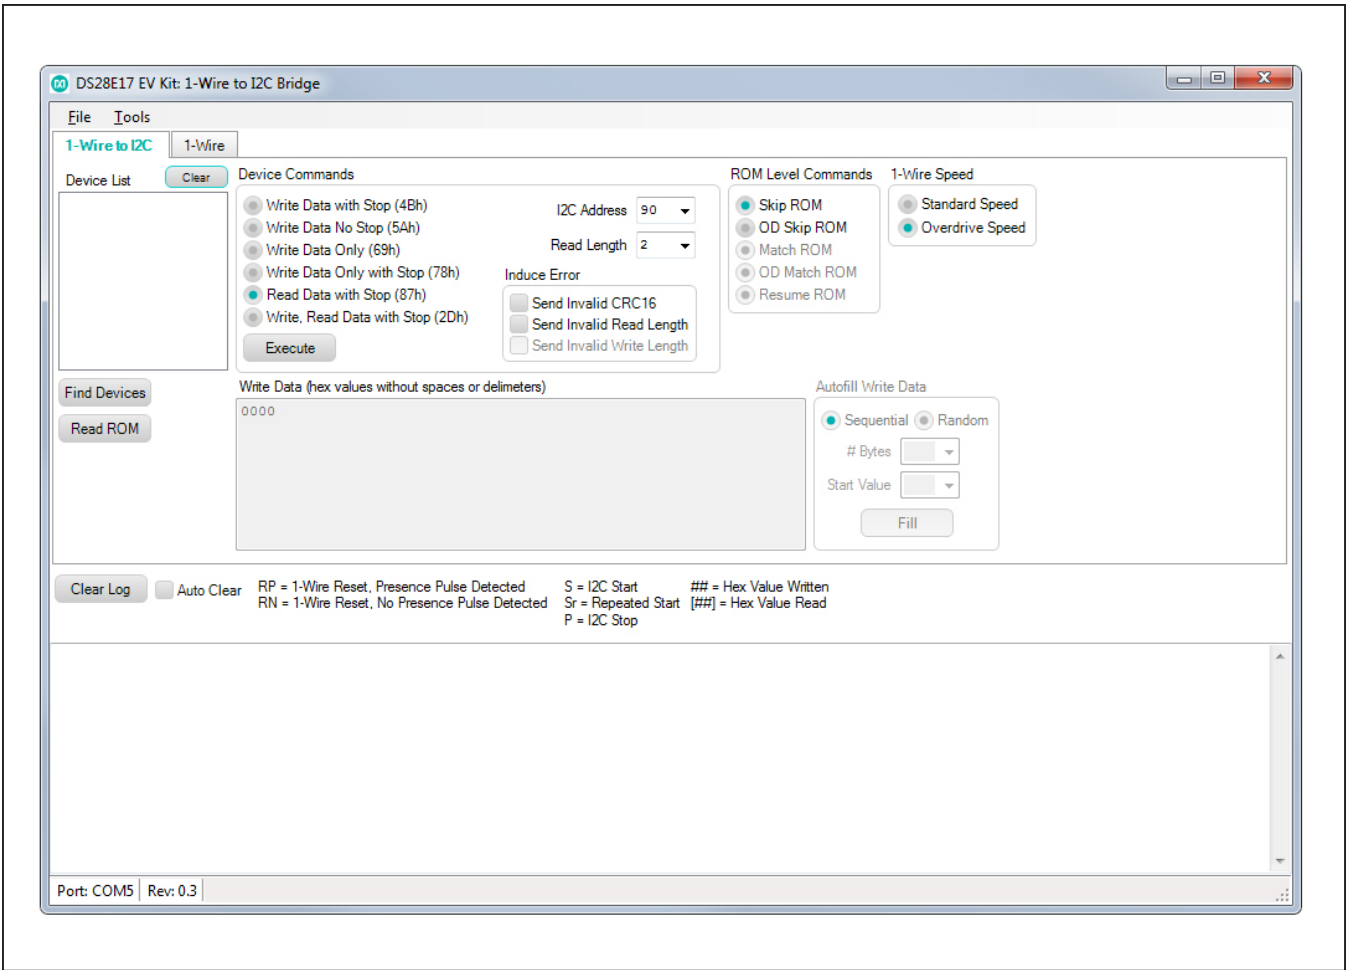

Figure 11. DS28E17 EV Kit Software Initial Screen GUI
- 15) Once properly installed, the initial screen graphical user interface (GUI) should appear (Figure 11).